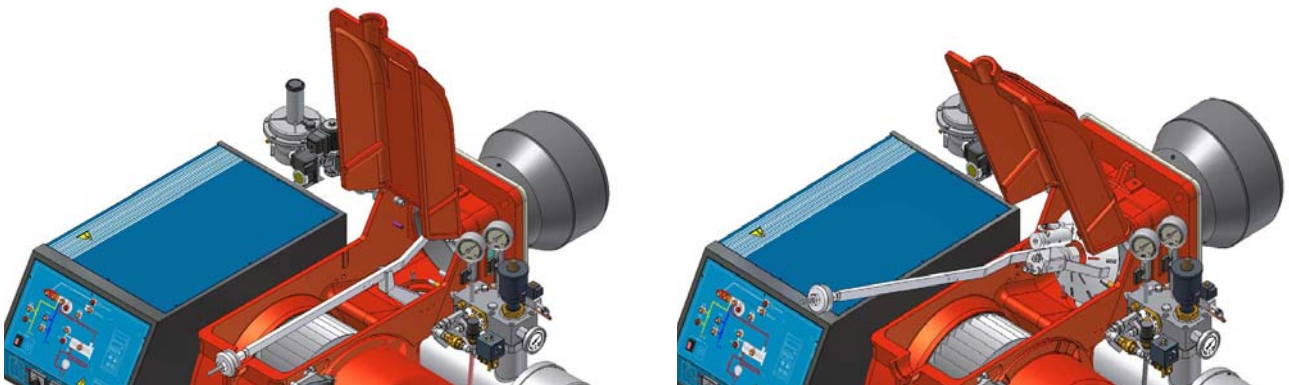

Fig. 27
- Unscrew the flexible hoses from the gun (burner side) and remove the whole assembly as shown on Fig. 27.